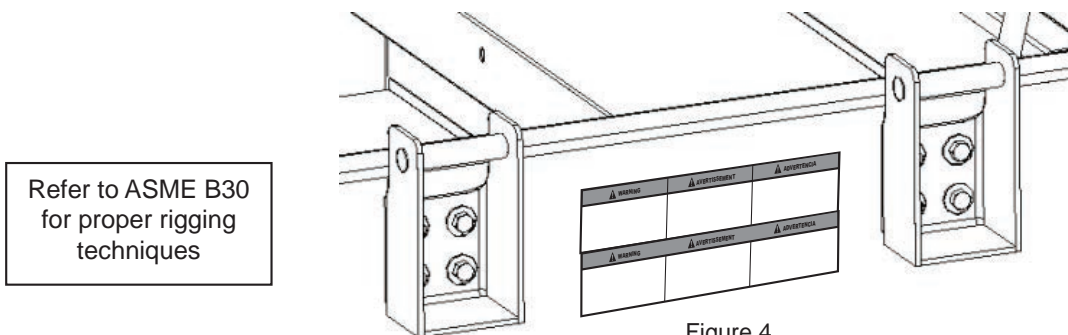

Figure 4
5. Mount decals on exterior of unit between the bracket as shown in Fig. 4